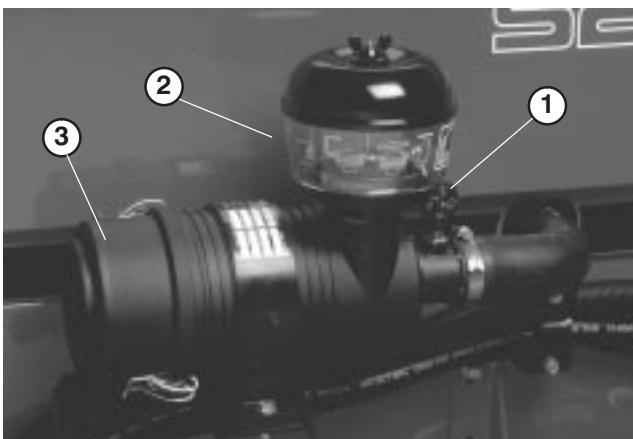

Figure 45
2. Service the air cleaner filters when ever air cleaner indicator (Fig. 45) shows red or every 400 hours (more frequently in extreme dusty or dirty conditions). Do not over service air filter.
SERVICING PRECLEANER BOWL (Fig. 45)
- Reset indicator (Fig. 45) if showing red.